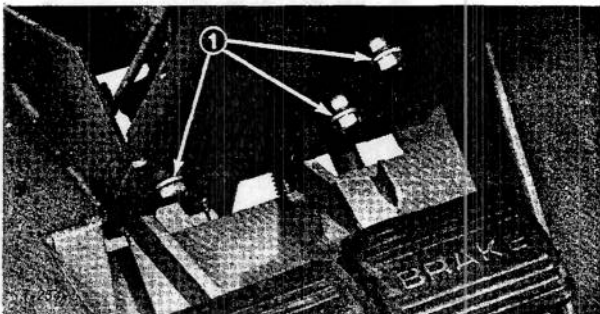

Figure 45
6. Remove capscrews and lockwashers retaining steering gear against steering tower (Fig. 45). Slide steering gear down off steering tube and away from the tower.
2. Insert input shaft of steering gear into steering tube and hold gear against steering tower. Secure gear in place with three capscrews and lockwashers (Fig. 45). Lock steering gear and tube together by tightening steering clamp locknut and carriage bolt.